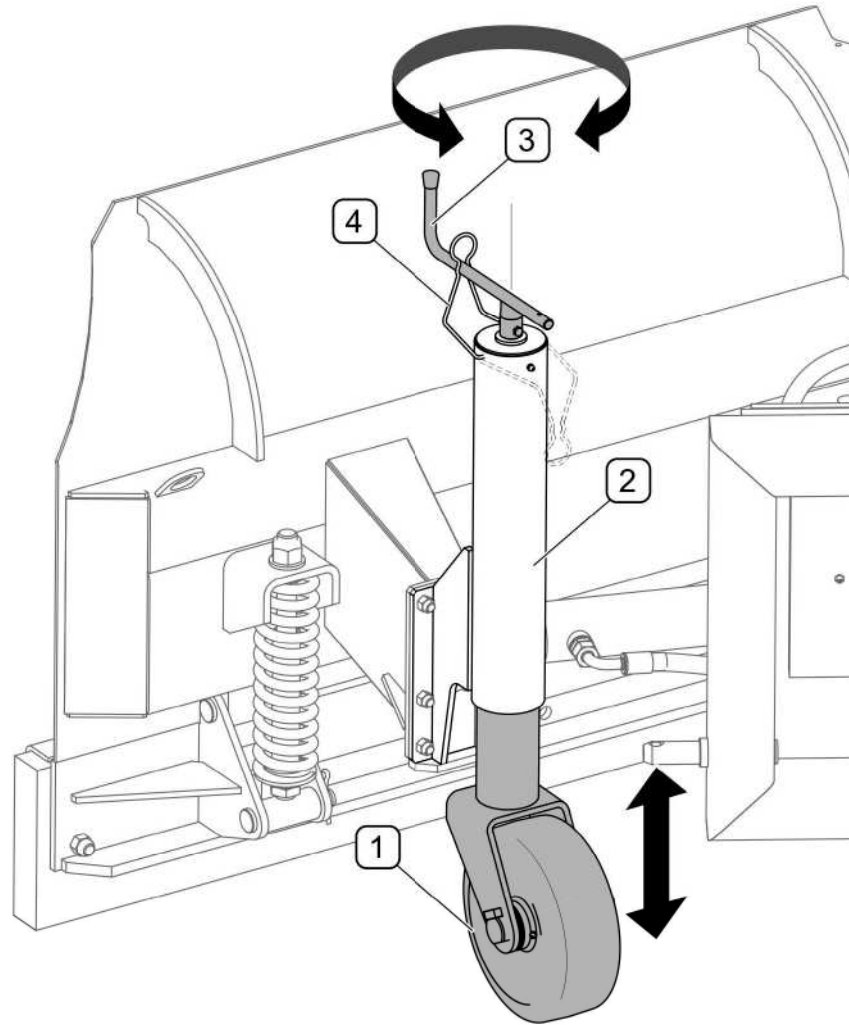

FIGURE 4.9 Height adjustment in ploughs equipped with wheels.
(1) - slide, (2) - slide guide (3) - pin, (4) - locking linchpin
In ploughs equipped with wheels (FIGURE 4.9) height adjustment is performed by withdrawal or insertion of wheel (1) in the body (2) by turning the knob (3). The knob is protected by a lock (4). After setting wheel height, appropriately set knob (3) and secure with lock (4). It is recommended that both wheels are set at the same height.